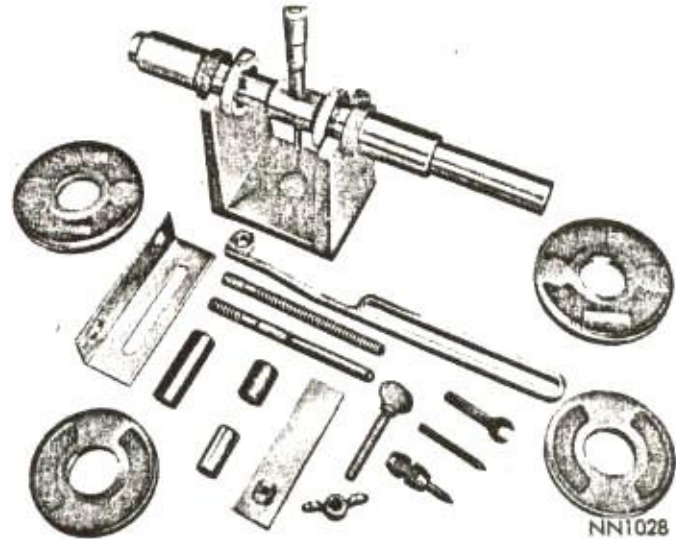

Fig. 13—Pinion Depth Gauge Tool DD1244
(13) Position drive pinion and bearing assembly in carrier and install front pinion bearing cone on pinion stem. Do not install preload shims behind front pinion bearing at this time.
(14) Install universal joint pinion flange followed by washer and nut. Tighten nut just enough to obtain 10-30 inch-pounds of preload. Rotate drive pinion while tightening to seat bearing rollers.
(15) The pinion depth gauge Tool DD-1244 (Fig. 13) is a direct reading precision micrometer, mounted in an arbor and is calibrated to show the distance from the end of the anvil to the centerline of the gauge set. To check the accuracy of the gauge, install the micrometer and arbor in the master gauge. Install the checking block and read the micrometer, it should be accurate within less than .0005 inch (Fig. 14).
(16) Select the proper adapters from the gauge set that fits the differential bearing cup bores. Install the adapters on the arbor and position in carrier housing. Install bearing caps and tighten cap bolts up snug.